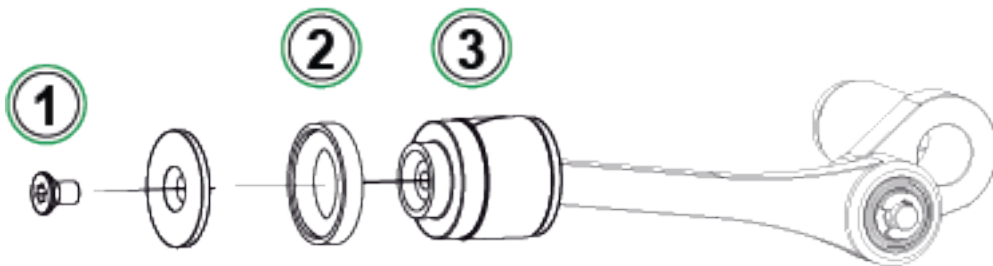

Figure 56: Step 4
5. When the screws are unscrewed, lift the Cylinder Guiding End and the Cylinder (1). Before lifting the cylinder, push it slightly backwards and turn it a bit to the right so it can be easily lifted up. Be careful not to slide the cylinder downwards in a way that the Piston Seal comes visible from the top of the cylinder. If it happens, you first have to remove the Piston Seal (Figure 56: Step 4) and then remove the cylinder to get the piston back into the cylinder.
8. Take a new o-ring and a new Piston Seal (see part (2) in Figure 56: Step 4). Slide them into place and tighten with Piston Top and new M3x6 screw.